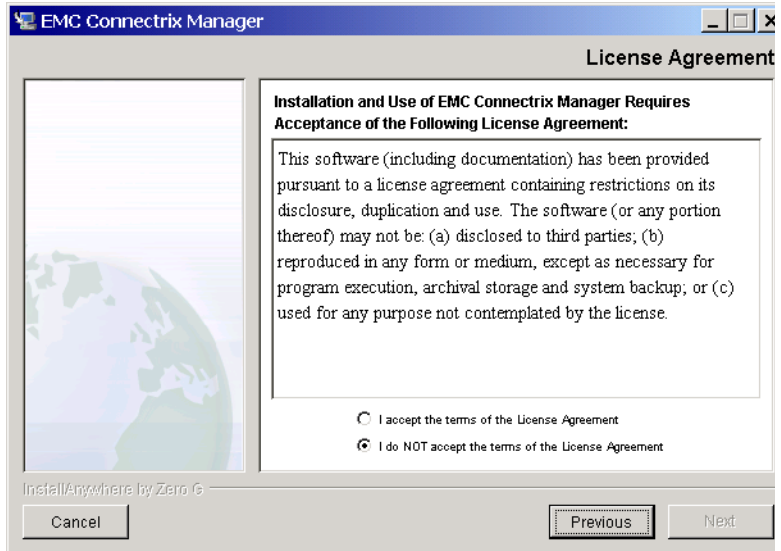

Figure A-21 Connectrix Manager Installer — License Agreement
7. Click **Next** on the Introduction window. This displays a License Agreement window (Figure A-21).